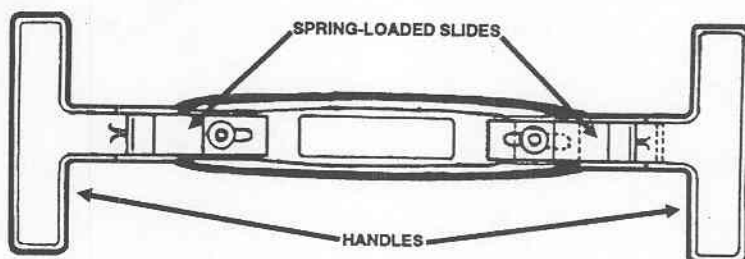

Figure 1-3. Spring-loaded slides and handles.
f. *Handles (fig 1-3).* The two handles of each dental light are of highly durable plastic which can be sterilized. The handles are spring-loaded for easy removal and replacement without tools.